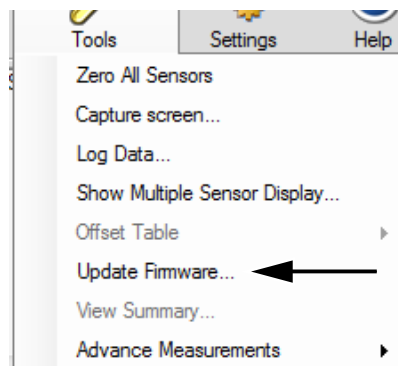

Figure B-2. Update Firmware
2. Launch the Update Firmware command from the **Tools** menu. See Figure B-2